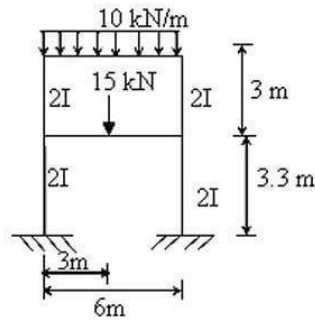

Figure 2
4. Analyse the frame shown in the figure 2 using Kani's method. Assume moment of inertia for the beams as $1.4I$. Draw BMD and elastic curve. [10]